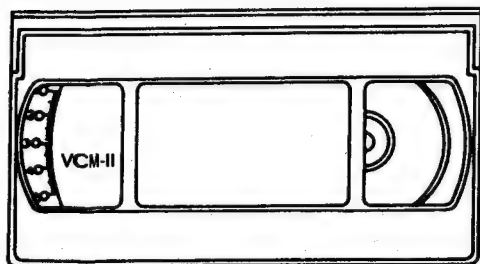

Fig.2
1. Remove the bottom cover. ( See Fig.2)
### 3-3. Back Tension Adjustment (Fig. 2)